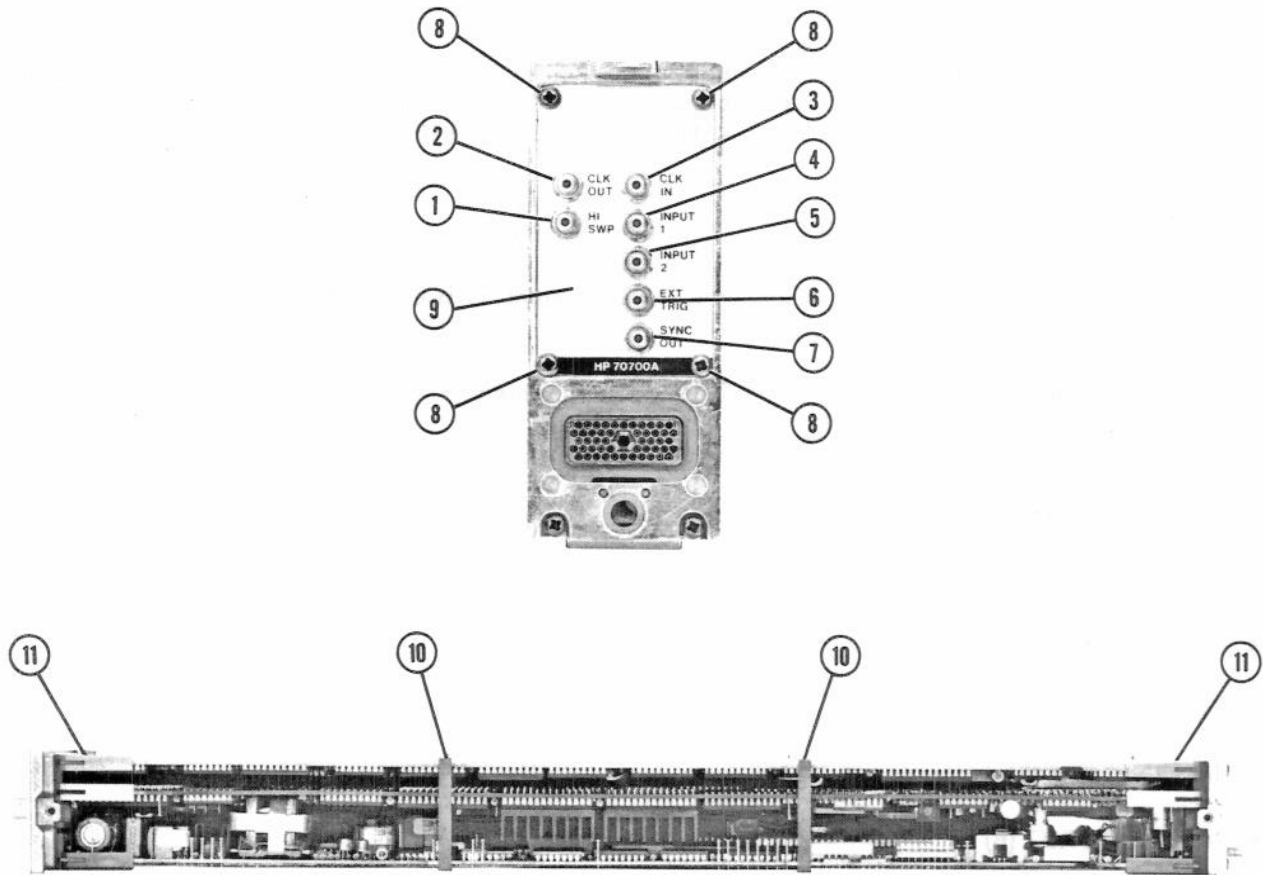

Figure 5-2. A3 Address Replacement
3. Remove the lock-nuts and washers from the following rear-panel SMB connectors (see Figure 5-2):
- A5J3 HI SWP (1)
- A5J2 CLK OUT (2)
- A4J3 CLK IN (3)
- A4J4 INPUT 1 (4)
- A4J5 INPUT 2 (5)
- A4J6 EXT TRIG (6)
- A4J7 SYNC OUT (7)
4. Remove four screws (8) from the rear-panel faceplate.
5. Remove the rear-panel faceplate (9) by pushing it out from the inside of the module.
6. Remove the two clips (10) holding the board assemblies in place.